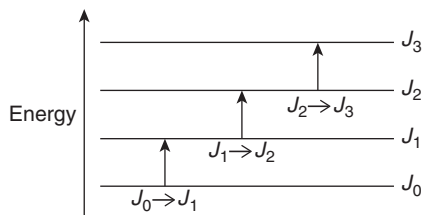

Figure 12 Rotational energy levels showing different rotational transitions.
2. The rotating molecule can increase or decrease its rotational energy only to either next higher or next lower energy level, when it absorbs or emits a quantum of microwave radiation (i.e.,  $\Delta J = \pm 1$ ) as shown in Figure 12.